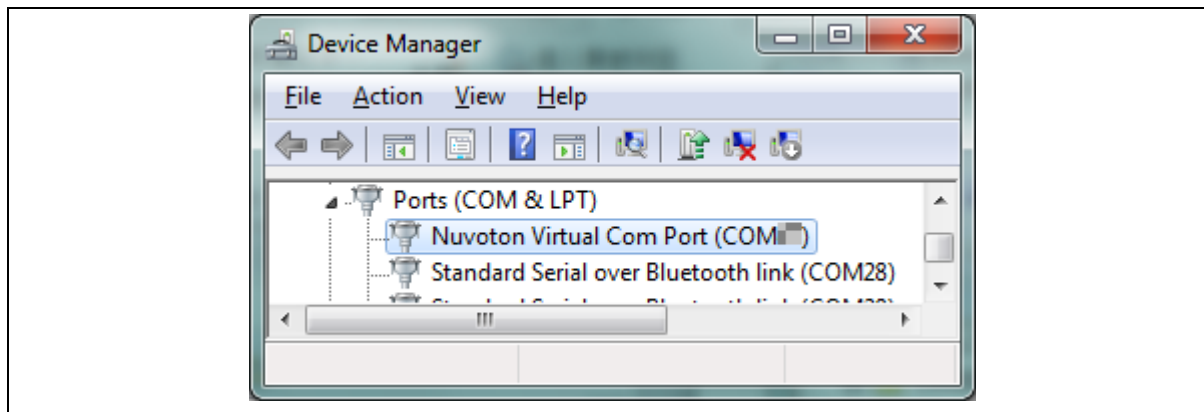

Figure 4.4-3 Device Manger
- Find the “Nuvoton Virtual COM Port” on the Device Manger as Figure 4.4-3.